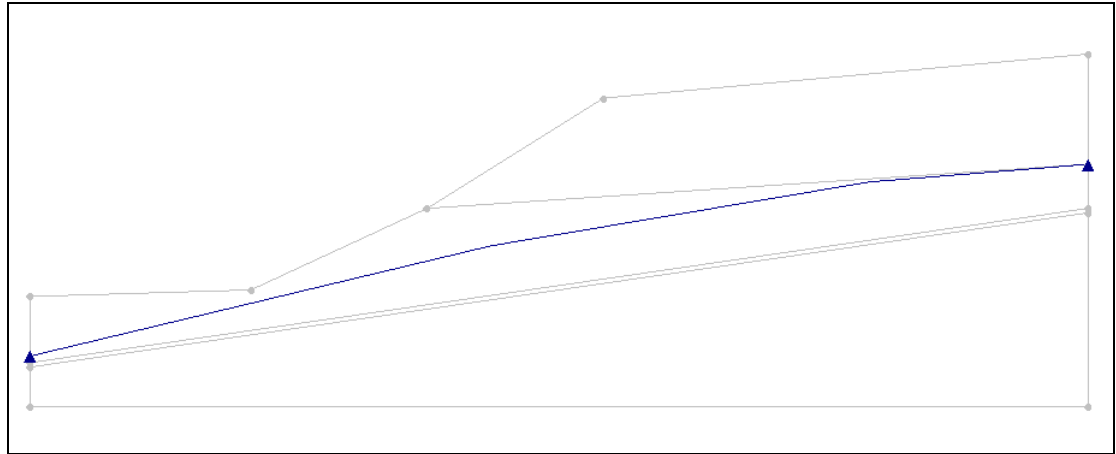

Figure 2 Piezometric line
In this model, the user will use a piezometric line to define the pore water pressures (Figure 2).
3. Connect the points to form the arcs shown in Figure 2.